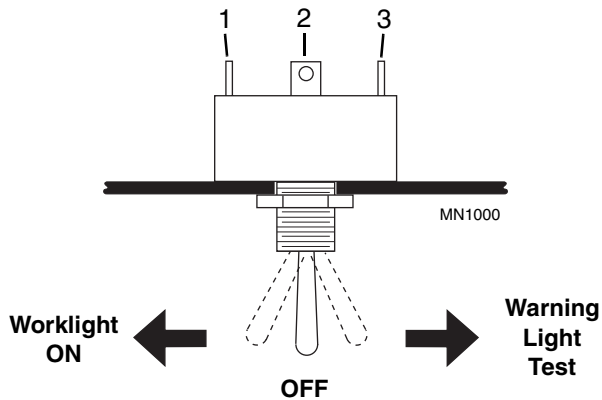

Figure 8-6 Warning Light Test/Headlight Switch Test
3. Use an ohmmeter or a continuity tester to test all positions of the switch (Fig. 8-6) for continuity as follows: